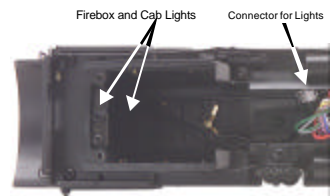

Figure 8b. Firebox and Cab Lights
2. Unplug the black wires from their connector (see figure 8b).